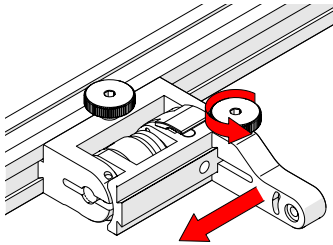

Fig. 55 - Position swing arm
5. Loosen the swing arm knob and slide the swing arm to the opposite end of the probe holder bracket (Fig. 55) or the preferred position. Tighten the swing arm knob.